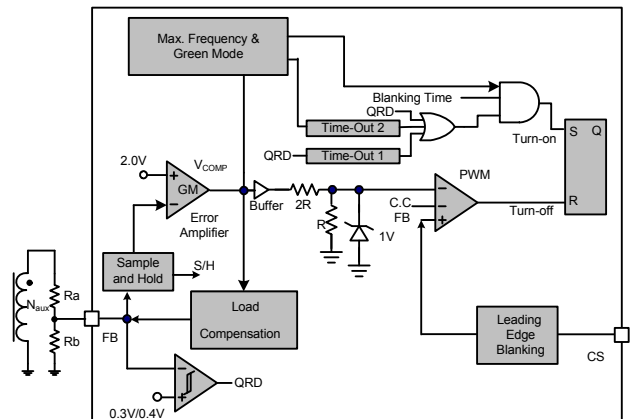

Fig. 20
The LD7515A employs quasi-resonant (QR) switching scheme to switch valley-mode either in CV or CC operation. This property feature greatly reduces the switching loss and dv/dt in the entire operating range for the power supply. Fig. 20 shows the typical QR detection block. The QR detection block will detect auxiliary winding